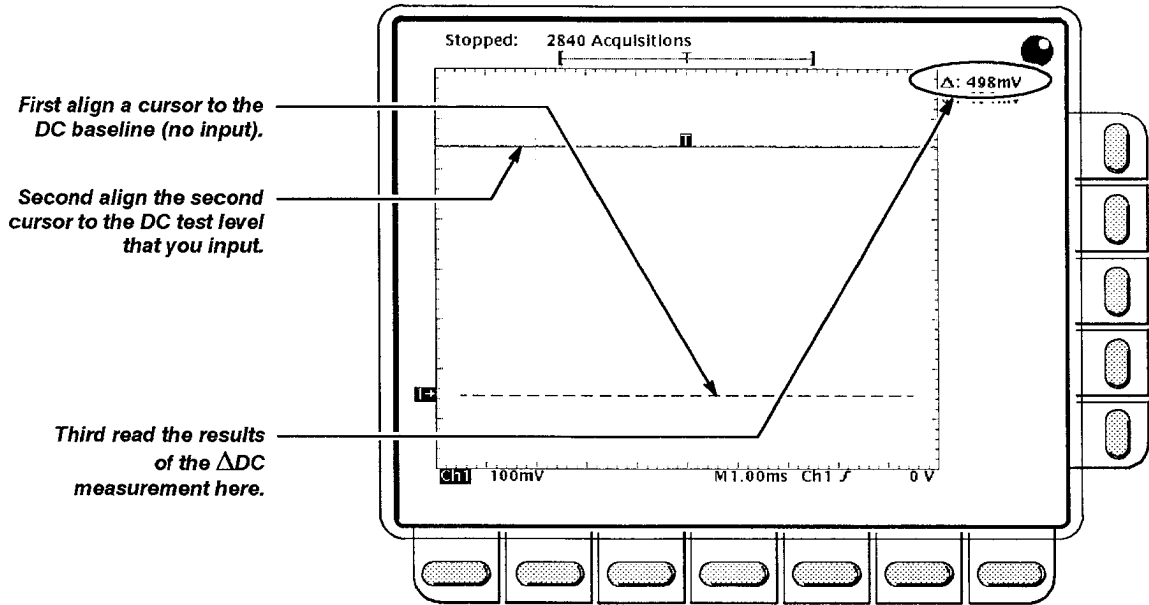

Figure 4-6: Measurement of the DC Accuracy for Delta Measurements
- Press **CLEAR MENU**. Read the measurement results from the delta (Δ :) readout, not the absolute (@:) readout. See Figure 4-6 on page 4-20.